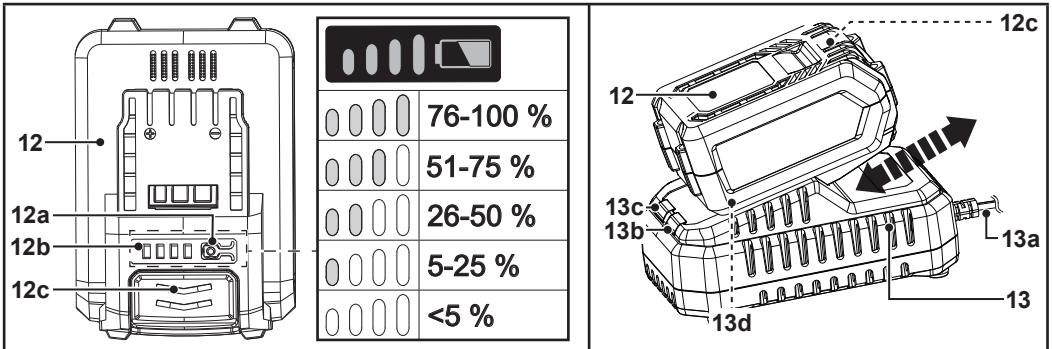

Fig. 3
1. Press the battery capacity button (12a) (Fig. 3).
2. The LEDs of the battery capacity indicator (12b) will stay lit for approximately 10 seconds (Fig. 3).
1. Connect the mains plug (13a) of the charger (13) to a suitable power supply.
2. Align the battery pack (12) to the battery docking port (13d) and slide it until it locks in place (Fig. 3).
4. **When the charging is completed:** Keep the charger (13) in position with one hand. Press the release button (12c) and pull the battery pack (12) out (Fig. 3).